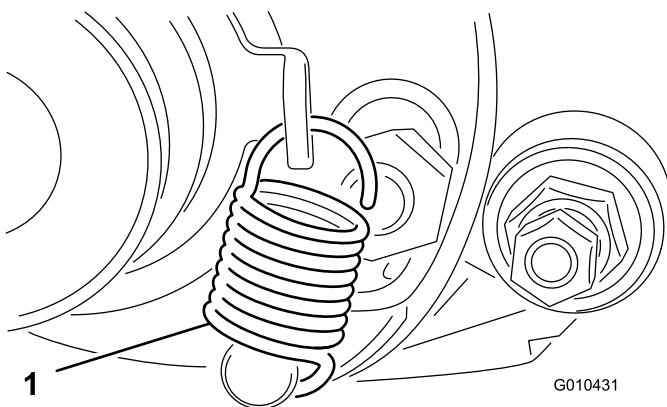

Figure 17
1. Rotate the idler pulley until you can hook the extension spring into the hole in the pulley bracket and onto the stud as shown in Figure 17.